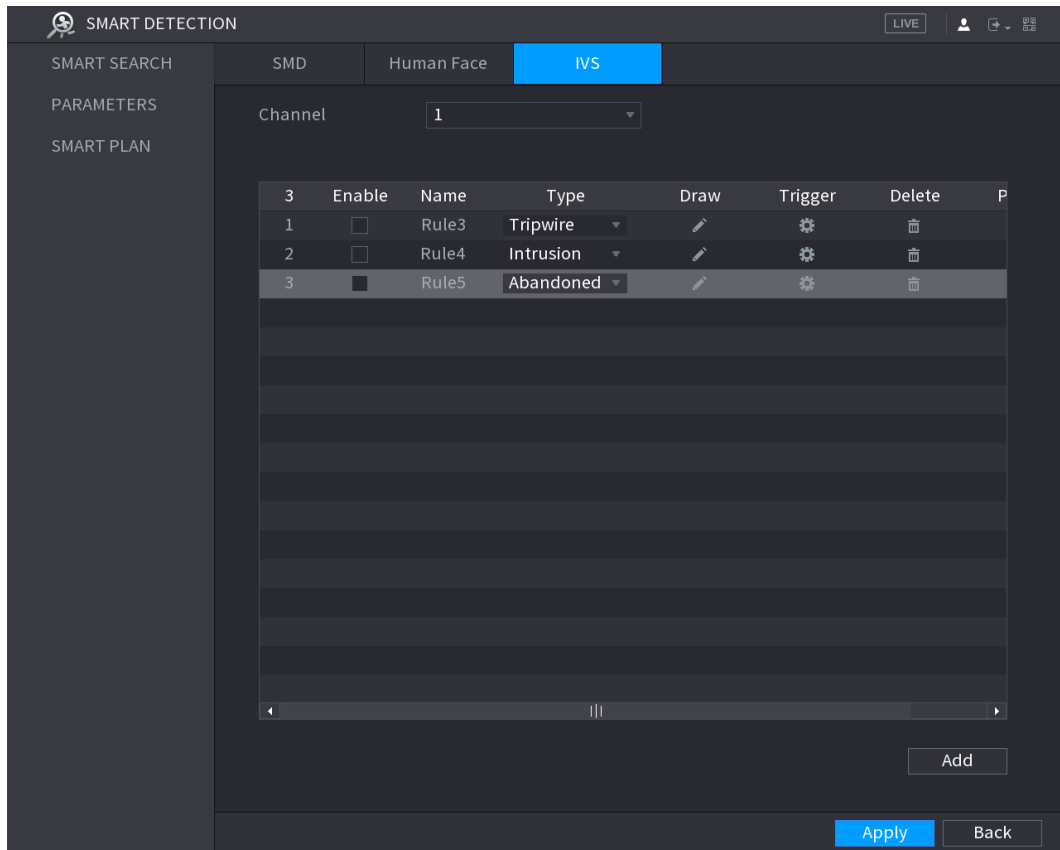

Figure 5-159
Step 1 On the rule line that you added, in the **Type** list, select **Abandoned**. See Figure 5-159.